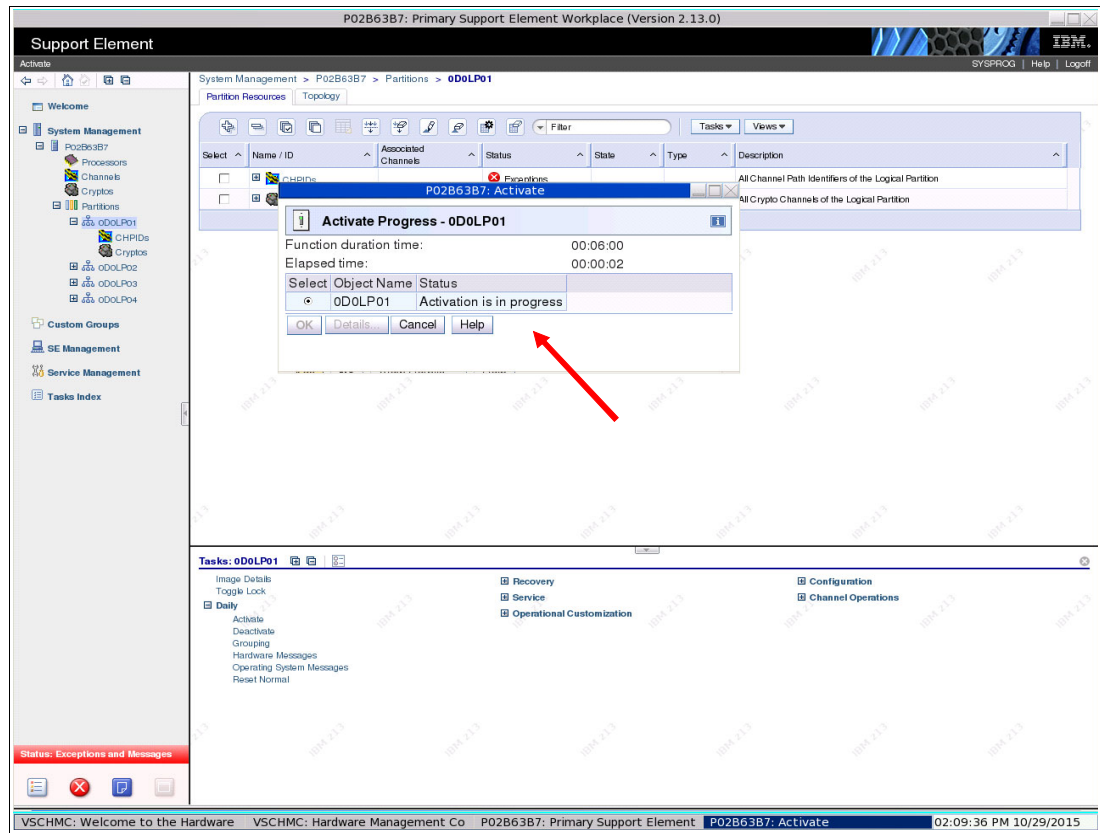

Figure 5-13 0D0LP01 partition activation in progress
2. We select **Yes** to continue. A new window opens in which we are informed that the activation is in progress, as shown in Figure 5-13.